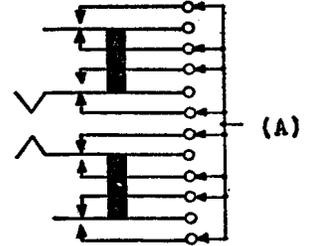

Fig. 10
- Fig. 10(A)—Cross Sequence—Break-Make Spring Combinations on Ringing Spring Assemblies or When Specified on Circuit Drawing:** All normally closed contacts operated by the throw of the lever shall break before any of the normally open contacts make by—0.005 inch (Readjust—0.006 inch).